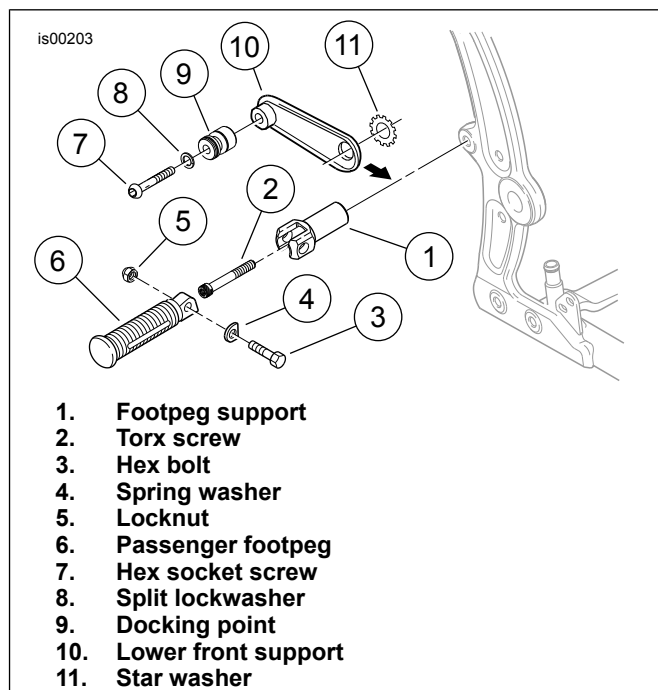

Figure 3. Lower Front Saddlebag Support (Left Side All, Right Side Without Shotgun Exhaust)
1. See Figure 3. Remove the bolt (3) and locknut (5) retaining the passenger footpeg (6) and spring washer (4) to the footpeg support (1). Use an extended T-50 Torx® drive head to remove the screw (2) fastening the footpeg support to the motorcycle frame.
- one lower front support (10),
- one docking point (9),
- one external-toothed (star) washer (11),
- one 5/16-18 x 1-1/2 in. long button head screw (7),
- one 5/16 in. split lockwasher (8).
3. Insert the Torx® screw (2) through the footpeg support (1) and the large hole in the lower front support (10). Place the star washer (11) over the screw threads, and apply a few drops of Loctite 243 (blue) to the threads.
4. **For all except HDI models:** Grasp the "D"-ring on one of the two quick-release studs (1) inside the saddlebag. **For HDI models:** Regulations require that the "D"-ring be removed from the quick-release studs in all HDI applications. Without the "D"-ring, a coin or flat-bladed tool will be needed to install or remove the saddlebags. **For all models:** With the groove at the end of the stud held in a horizontal position, insert the stud through the hole in the saddlebag mounting bar (5). When the groove engages the wire form (9) inside the bar, turn the stud clockwise a full 1/4 turn until it snaps in place. Install the second quick-release stud in the same manner.
5. See Figure 3. Rotate the footpeg support (1) so the footpeg slot angles up toward the rear at a 45 degree angle. Using an extended T-50 Torx® drive head, torque the screw (2) to 61–68 N·m (45–50 ft-lbs).
7. See Figure 3. Install the passenger footpeg on the footpeg support as shown using the bolt (3), spring washer (4), and locknut (5) removed earlier.